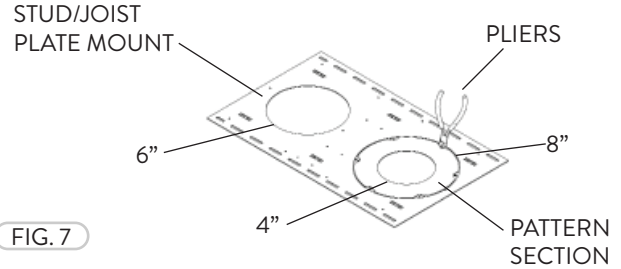

FIG. 7
- 1 The Optional Stud/Joist Mount is for the 4", 6", and 8" models only. If necessary use cutting Pliers to 'snip' sections off to remove the pattern for the 8" model (Fig. 7).